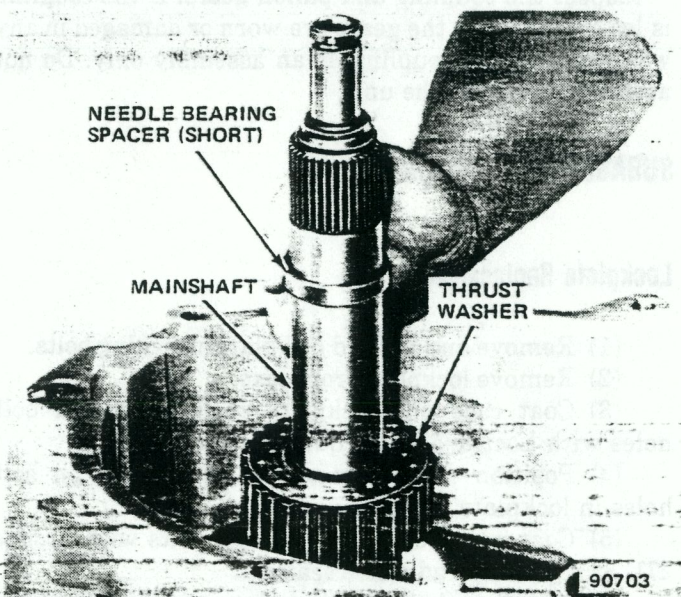

Fig. 2D-64 Mainshaft and Thrust Washer Installation
(18) Apply liberal coating of petroleum jelly to mainshaft needle bearing surface and to all 41 needle bearings. Install 41 bearings on shaft. Be sure bearings are in vertical position and seat on short spacer. Use additional petroleum jelly to hold bearings in place if necessary (fig. 2D-65).